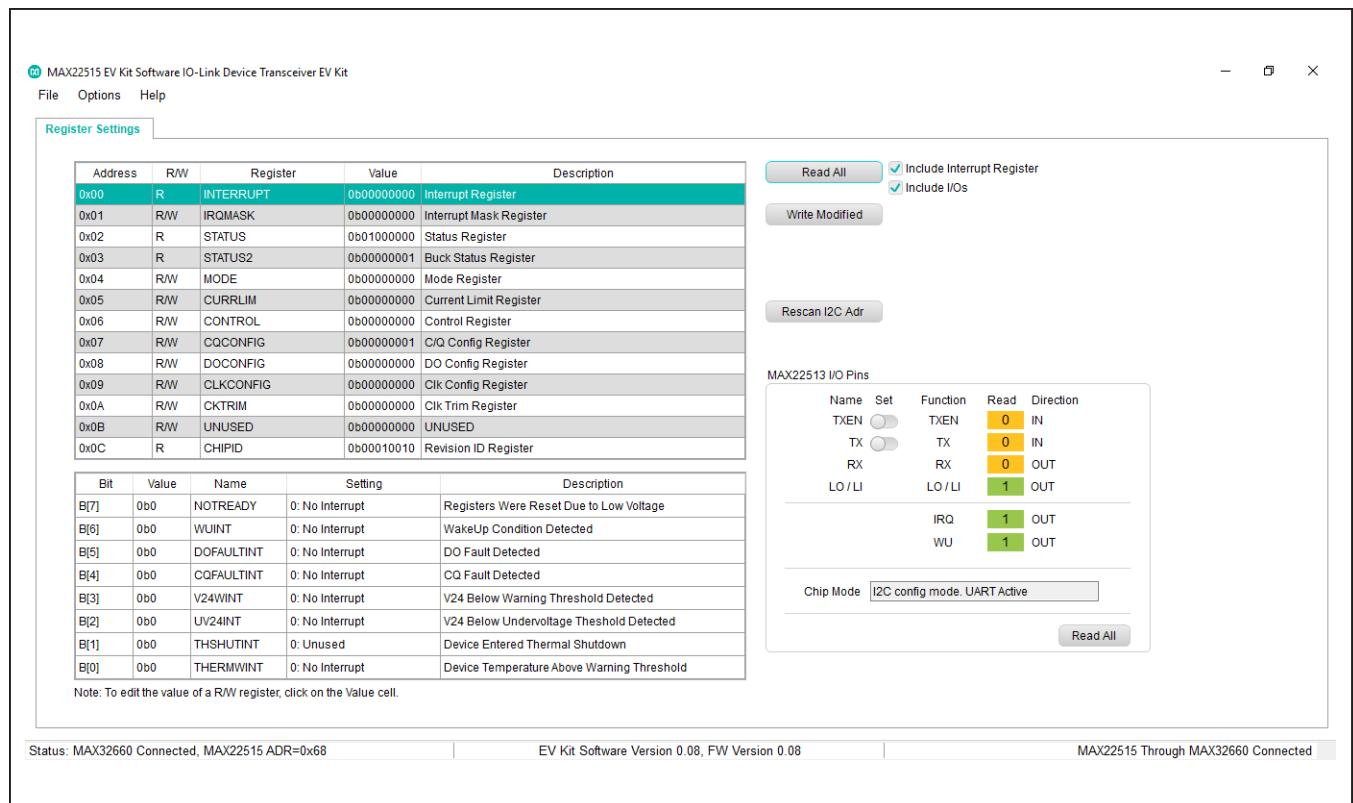

Figure 1. MAX22515 EV Kit Software, EV Kit is Connected
- 6) Start the EV kit software by opening its icon in the Windows Start | Programs | Maxim Integrated menu. The EV kit software main window appears, as shown in Figure 1.